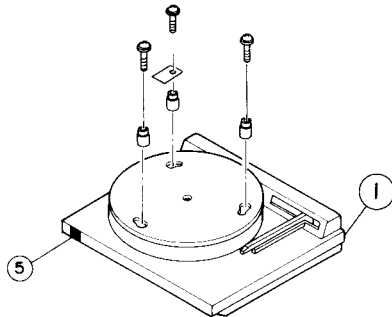

Figure 2
(1) Press the POWER Button "5" so that the power will be switched off, and remove the turntable platter as shown in Figure 2.